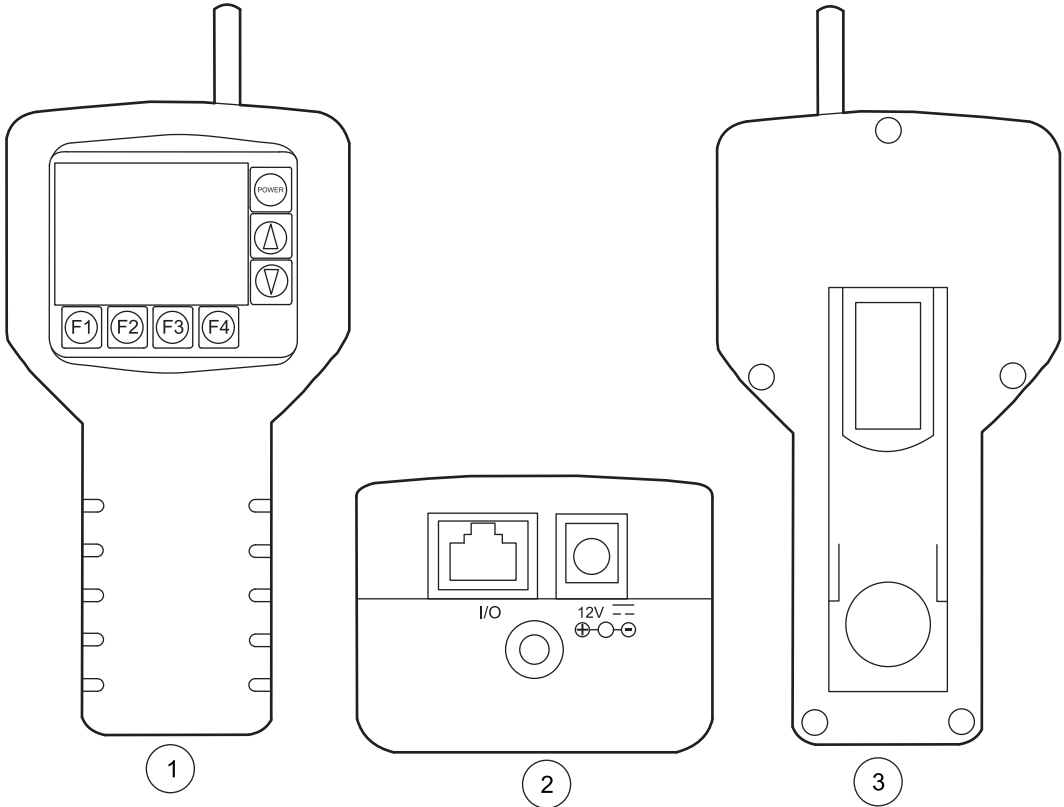

Figure 2 MET ONE HHP-6
The MET ONE Handheld Airborne Particle Counter–6 (MET ONE HHPC–6) (refer to Figure 2 on page 9) is a portable instrument that measures, counts, stores and reports airborne particulates. The standard MET ONE HHPC–6 can hold 500 samples in the memory. The data records include the date, time, counts, sample labels, volume, alarm flags, temperature and relative humidity. Use the interface cable and software provided with the MET ONE HHPC–6 to download the data records to a personal computer (PC). The internal battery can power the MET ONE HHPC–6 when the MET ONE HHPC–6 is mobile. The MET ONE HHPC–6 can also be connected to an AC power adapter provided, for extended or stationary sampling.